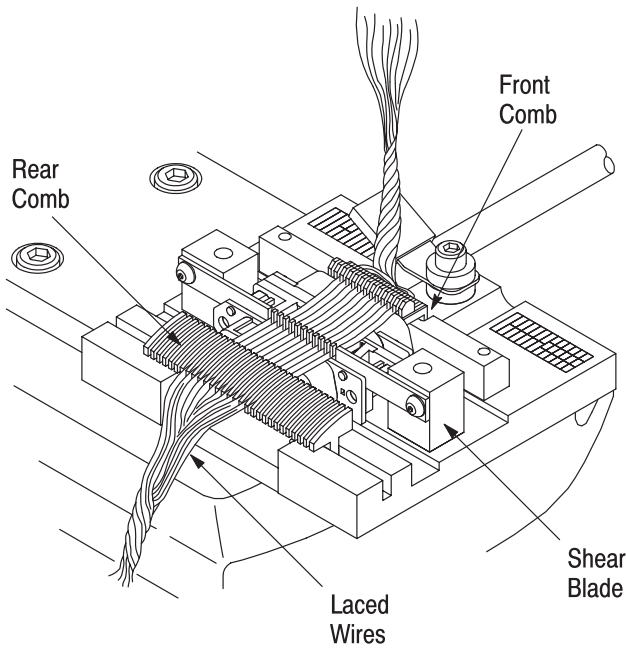

Figure 10
6. Lace the wires into the front comb, shear blade, and rear comb according to the color code of the wire and the color bar on the lower tooling. The color code of the wire should correspond with the color bar on the lower tooling. Secure each wire in the rear comb by pulling down on the wire; then twist the wires together as shown in Figure 10.